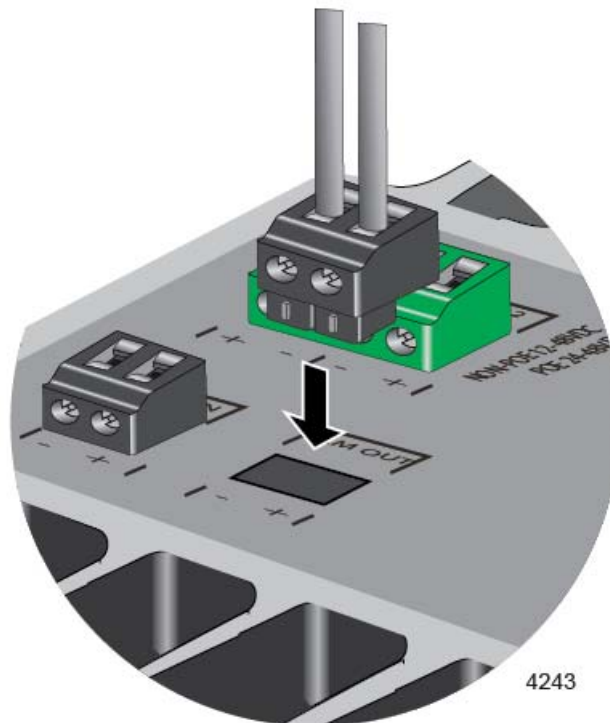

Figure 40. Inserting the DC Connector into the Alarm Connector
7. Insert the alarm connector back into its connector on the switch. Refer to Figure 40.